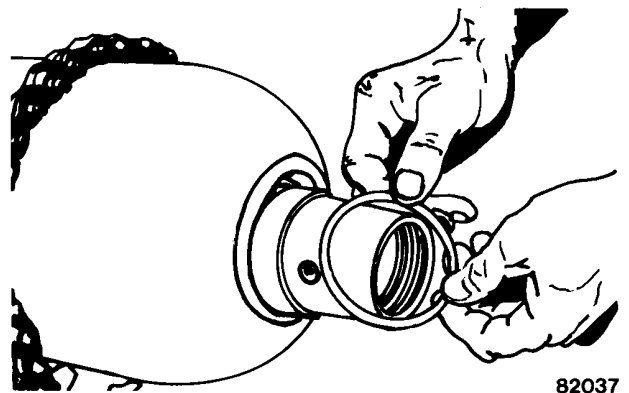

FIGURE 3-22. WASHER INSTALLATION
13. Install washer onto plug and poppet assembly and push until seated against anti-extrusion ring. (Refer to Figure 3-22).